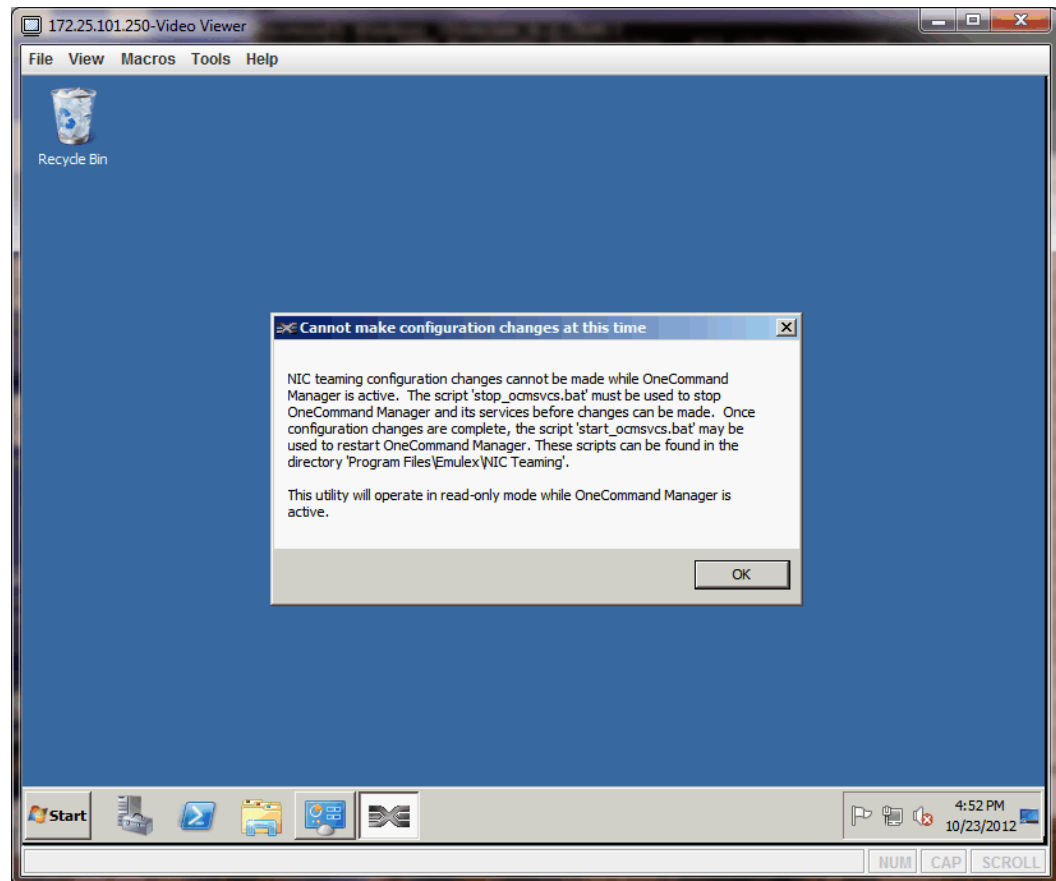

Figure 5-4 Warning message to notify the user to disable the OneCommand background process before configuration can continue
3. If you see the following message in Figure 5-4 after starting the **OneCommand** utility, follow the provided instructions by disabling the OneCommand background process so that configuration changes can be made.